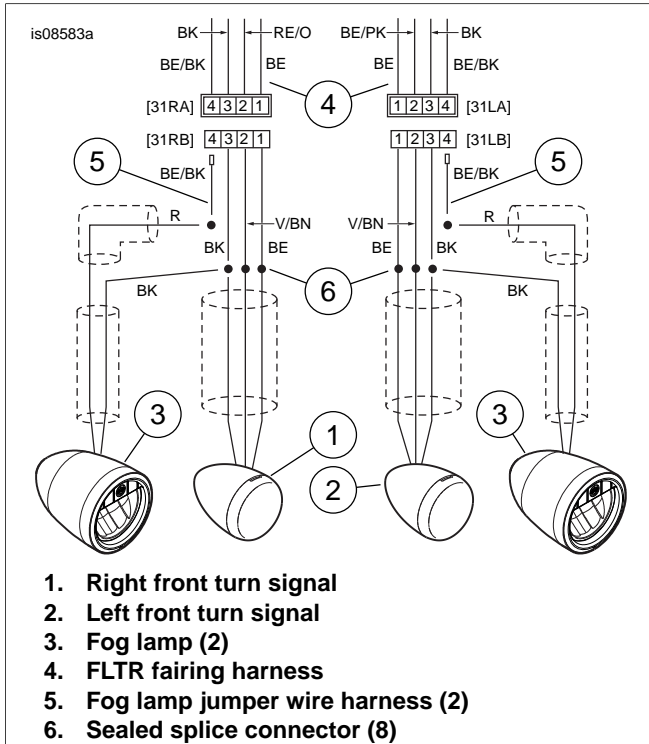

Figure 5. Wiring Diagram, Road Glide LED Bullet Fog Lamps
5. Use a sealed splice connector (11) from the kit to secure the (V/BN) connector wire to the (V/BN) wire from the turn signal. See Figure 5, Item 6.
- b. Cut the (BK) wire inside the gap farthest from the fog lamp. Pull the excess (BK) wire from the end of the wire sleeve.
- c. See Figure 5. Use a sealed splice connector (6) from the kit to secure the (BK) fog lamp wire to the (BK) turn signal wires cut earlier.